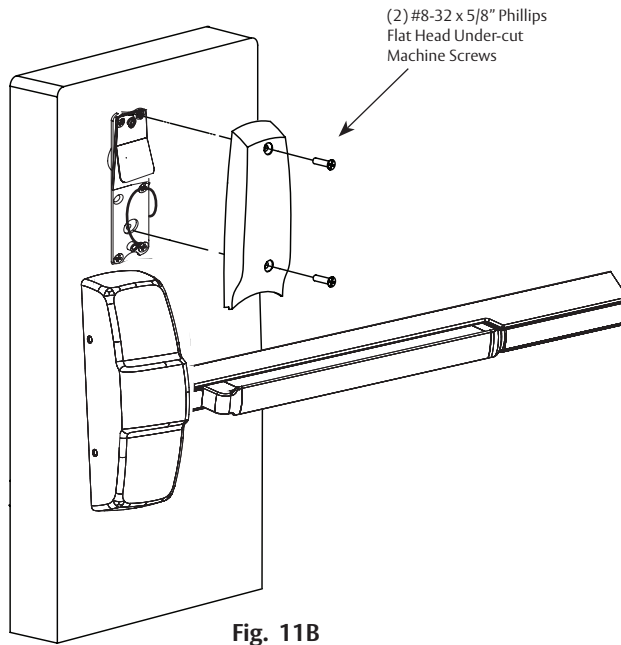

Fig. 11B
3. Position inside escutcheon against left side of mounting plate in order to ensure wires are not pinched. Adjust wires as necessary to ensure they are clear of rear escutcheon. Position inside escutcheon against door (Fig. 11B).